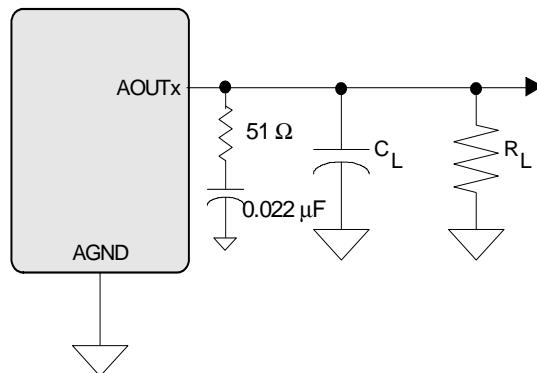

Figure 2. Headphone Output Test Load
5. See Figure 2. R_L and C_L reflect the recommended minimum resistance and maximum capacitance required for the internal op-amp's stability and signal integrity. In this circuit topology, C_L will effectively move the band-limiting pole of the amp in the output stage. Increasing this value beyond the recommended 150 pF can cause the internal op-amp to become unstable.
Test conditions (unless otherwise specified): Input test signal is a full-scale 997 Hz sine wave; Sample Frequency = 48 kHz; Measurement Bandwidth is 20 Hz to 20 kHz; Test load $R_L = 16 \Omega$, $C_L = 10$ pF (see Figure 2); "Required Initialization Settings" on page 33 written on power up.
Test conditions (unless otherwise specified): Input test signal is a full-scale 997 Hz sine wave; measurement bandwidth is 20 Hz to 20 kHz; Sample Frequency = 48 kHz; Test load $R_L = 10\text{ k}\Omega$, $C_L = 10\text{ pF}$ (see Figure 2); "Required Initialization Settings" on page 33 written on power up.